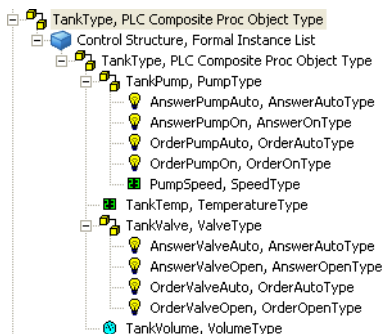

Figure 14. Finished ‘TankType’ Object Type
- 29. Expand the added object instances to view the finished ‘TankType’ object type, see Figure 14.